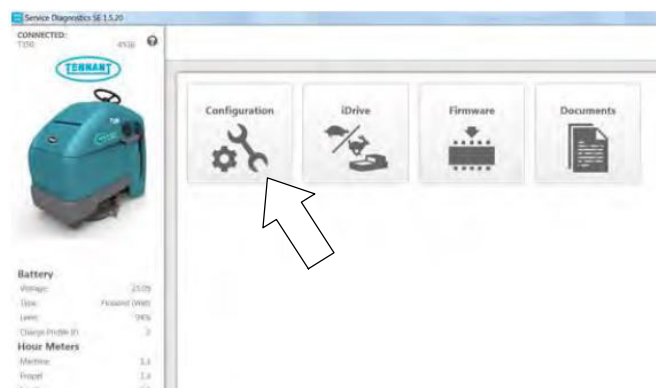

Fig. 26
6. From the Home screen, press the Configuration button (Figure 26).